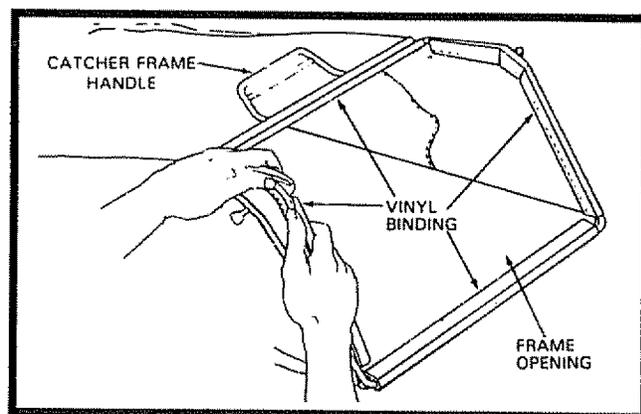

FIG. 3
- Put Grass Catcher Frame into Grass Bag with stiff part of Bag on the bottom (See Fig. 3). Make sure the Frame Handle is outside of the Bag top.
- Slip vinyl bindings over Frame (See Fig. 3).